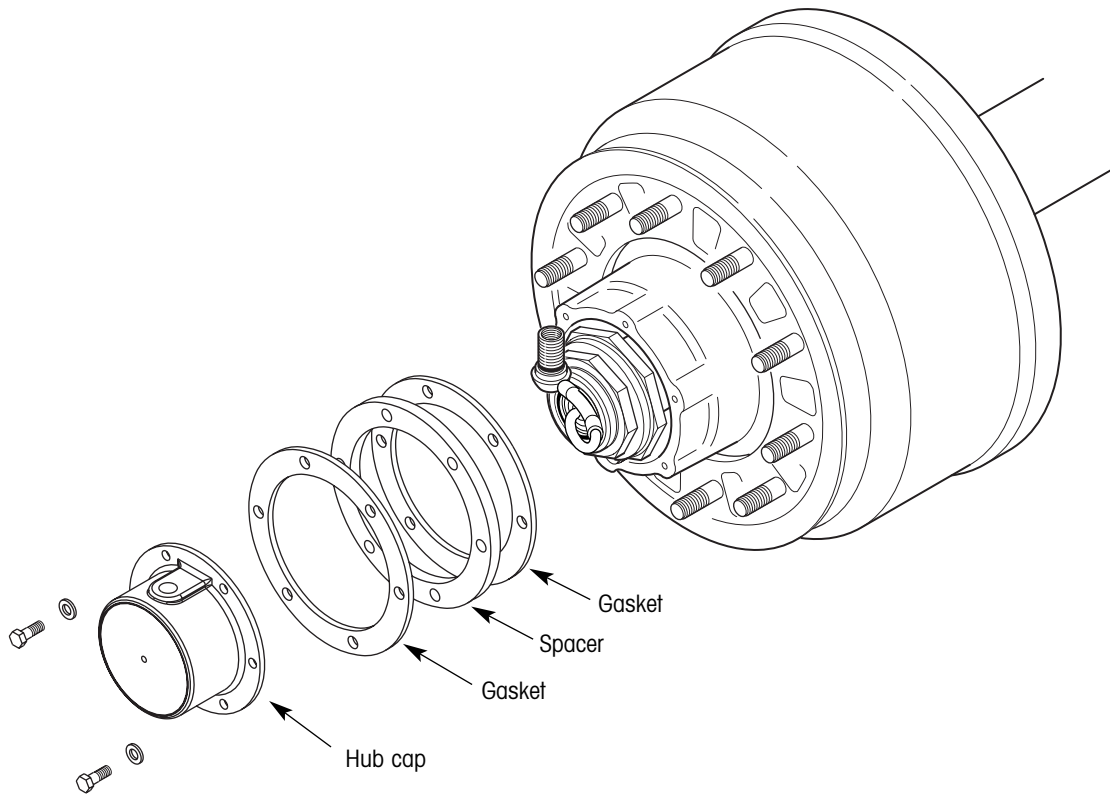

Figure 13. Hubcap spacer kit installation
1. Sandwich the spacer between two gaskets as shown in figure 13.